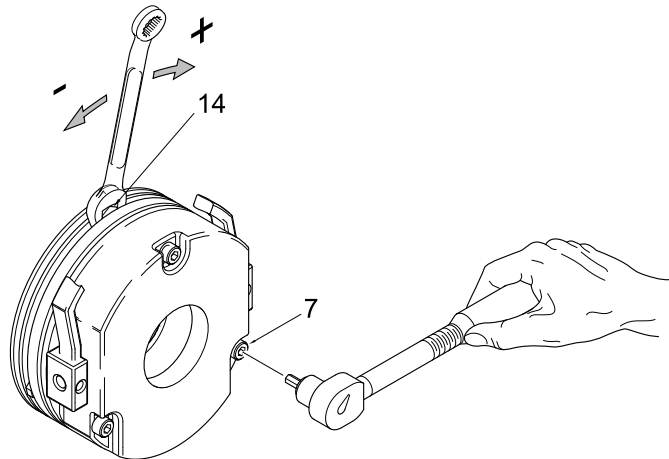

Figure 70 – Adjusting the Hoist Brake Air Gap
Where adjustment is required, slacken the assembly screws (7). Adjust the air gap by turning the adjustment tubes (14) until the nominal air gap 'a' is reached (see Figure 70).
- If the air gap is too large, screw the three adjustment tubes (14) into the stator. If the air gap is too small, screw the adjustment tubes out of the stator.